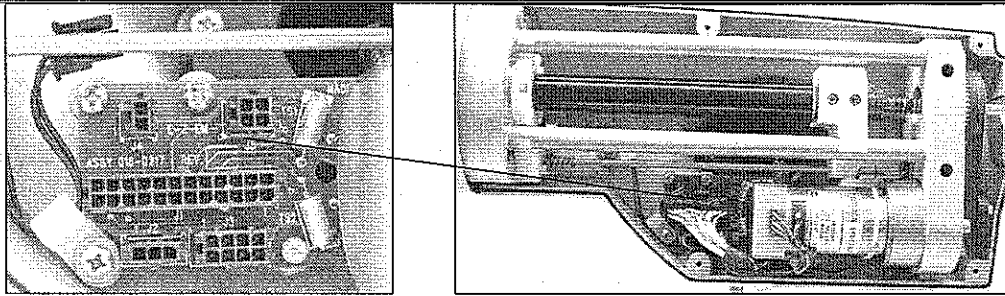

Figure 4-7c: Interconnect PCB
- d. Disconnect the heater harness from J5 on the Interconnect PCB (see Figure 4-7c). Place the Rear Enclosure on a clean surface.